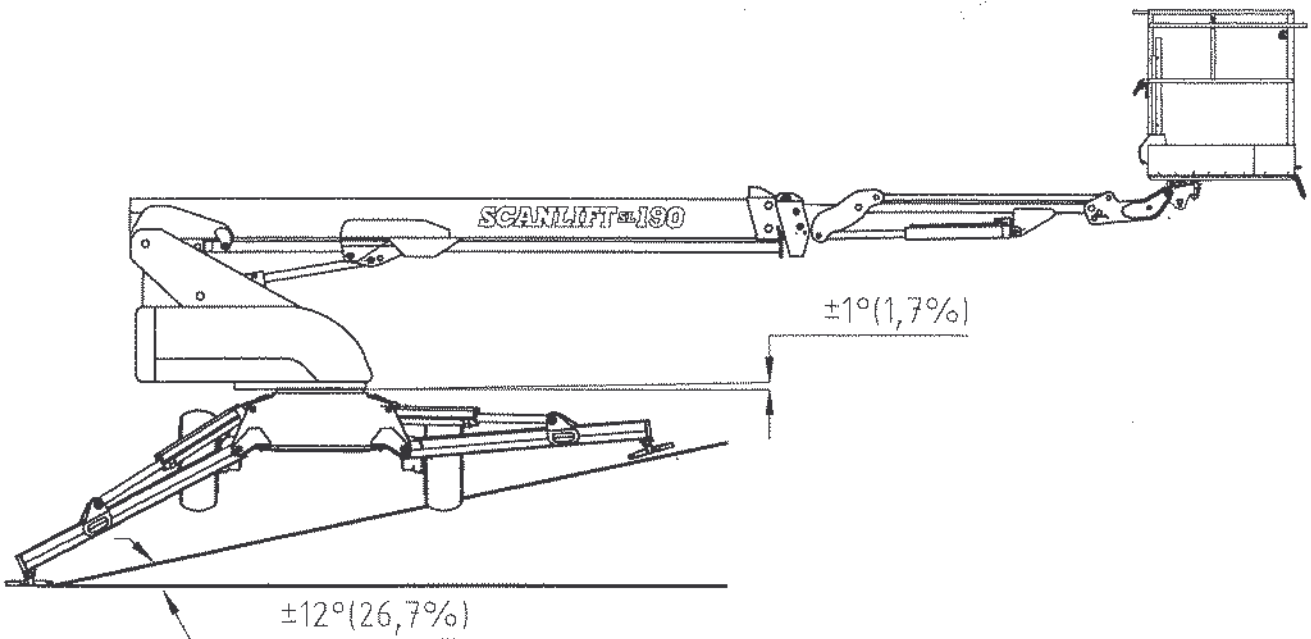

Figure 16.-2. Lateral slope
- 14.1** Make sure that the surface intended for the MEWP is level, see figures 16.-1 and 16.-2, Vertical and lateral slope, and hard enough, refer to the Soil tightness table, section 17.